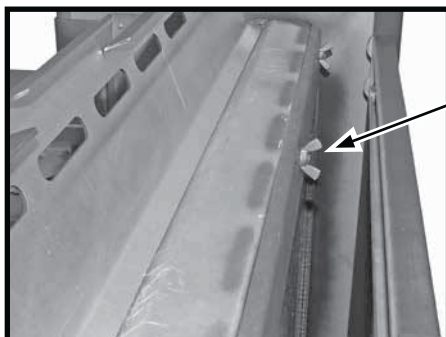
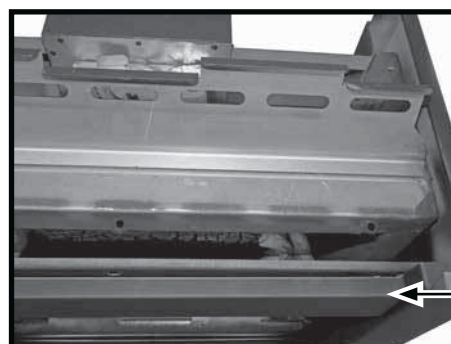

Figure 40: Door wing bolts.
Figure 41: TN24 glass door frame.
2. Remove the wing bolts (Figure 40) holding the glass door retainer frame to the gas stove frame and tilt the glass door (Figure 41) so that it can be removed